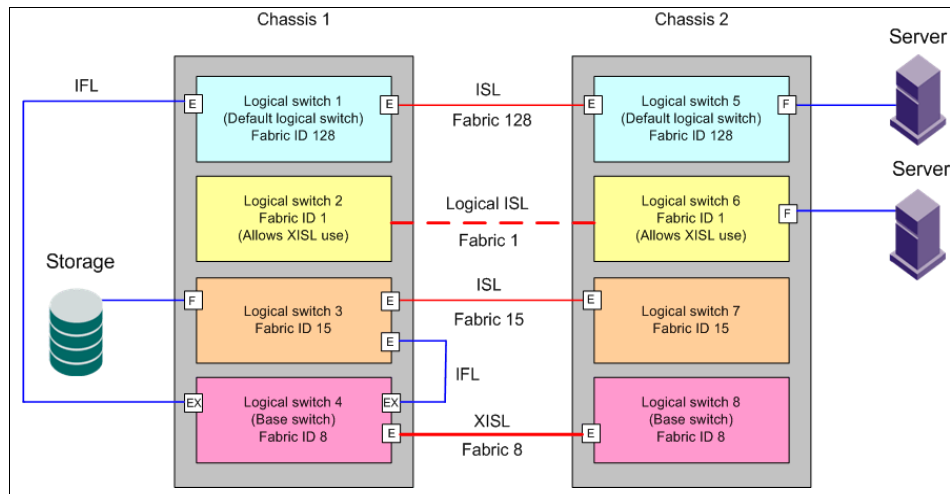
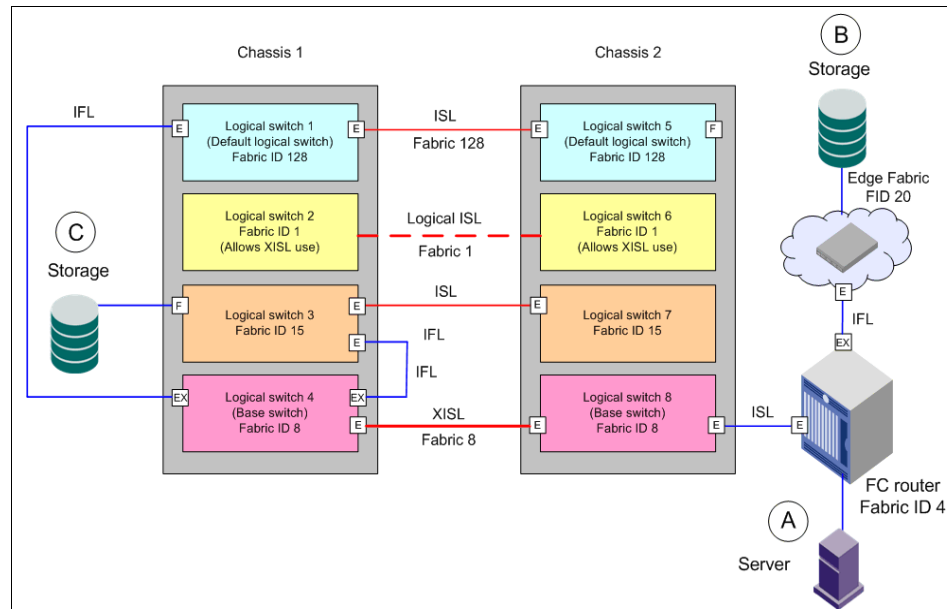

Figure 8-1 EX\_Ports in a base switch
Figure 8-3 Backbone-to-edge routing using FC router in legacy mode
As an example, Figure 8-1 shows two chassis' partitioned into logical switches. This configuration allows the device in Fabric 128 to communicate with the device in Fabric 15 without merging the fabrics.
Figure 8-1 also shows that EX\_Ports exist only in the base switch.
- ▶ A logical representation of the physical chassis and devices of Figure 8-1 on page 132
In Figure 8-1 on page 132, no devices can be connected to the backbone fabric (Fabric 8) because base switches cannot have F\_Ports. Figure 8-3 shows an FC router in legacy mode connected to a base switch. This FC router can have devices connected to it, and so you can have backbone-to-edge routing through this FC router. In this example, Host A in the backbone fabric can communicate with device B in the edge fabric with FID 20; however, host A cannot communicate with device C, because the base switches do not support backbone-to-edge routing.
Figure 8-3 shows backbone-to-edge routing across the base switch using the FC router in legacy mode.